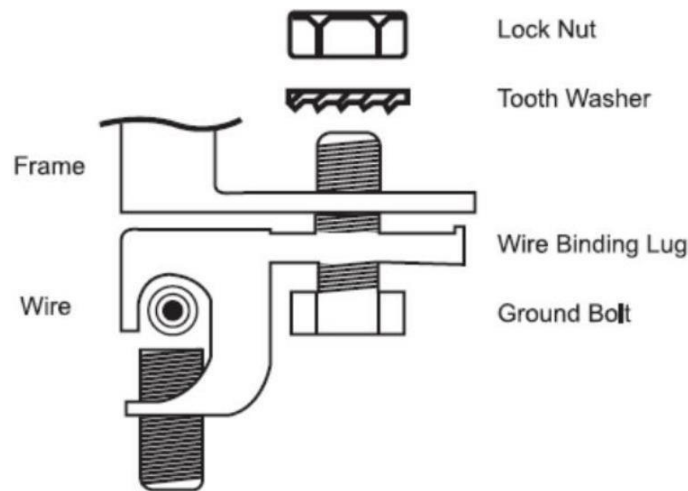

Figure 10: PV MODULES RECOMMENDED GROUNDING
- ◆ The Recommended Grounding method is given in below figure 10.